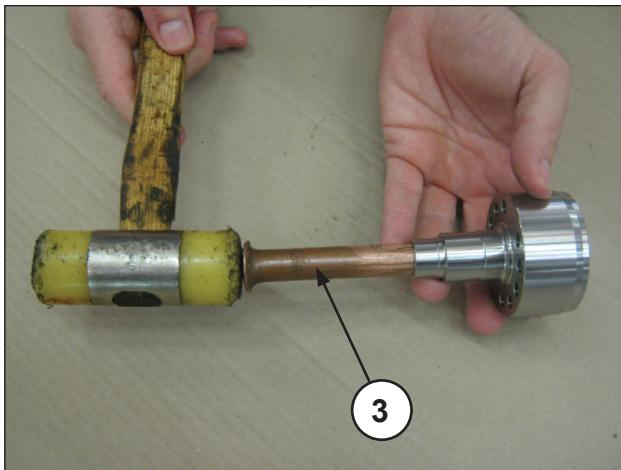

Fig. 116
- With separate HP seals support and a special pin (pos. ③ Fig. 116) make the H.P. (high pressure) packing come out (pos. ④ Fig. 117), finally extract the head ring (Fig. 118).